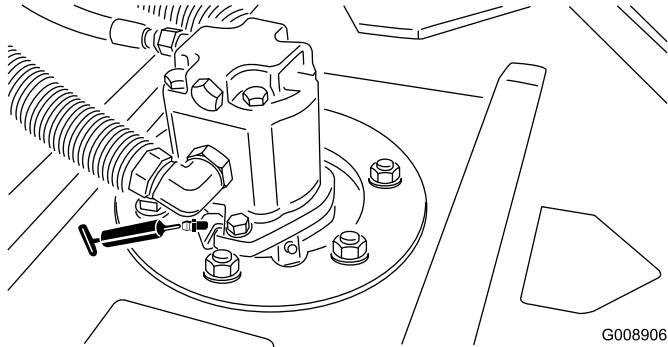

Figure 37
- Cutting unit spindle-shaft bearings (2 per cutting unit) (Figure 37)